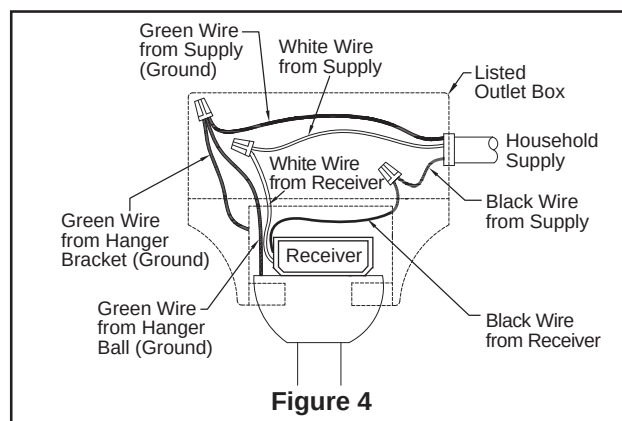

Figure 4
- ☐ 4. Thread downrod into the downrod support on top of the motor. Install the clevis pin by aligning the holes in the downrod support with holes in the downrod. Secure clevis pin with hairpin clip. Tighten the two set screws with nuts in the downrod support. (Figure 4)
2. Carefully lift the fan and seat the downrod/hanger ball assembly on the hanger bracket that was just attached to the outlet box. Be sure the groove in the ball is lined up with tab on the hanger bracket. (Figure 4)
3. After connections have been made, turn leads upward and carefully push leads into the outlet box, with the white and green leads to one side of the box and the black leads to the other side. (Figure 4)
4. To set the remote code with a small screwdriver or ball point pen (neither included), slide dip switches firmly up or down. (Figure 4)